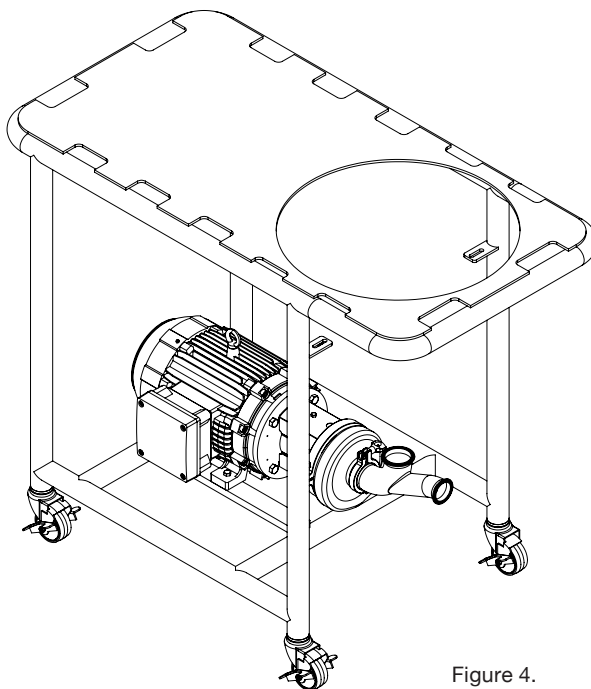

Figure 4.
6d. Install the Y-elbow (Y) in the suction of the QIM. Use the clamp gasket (G) and clamp assembly (C) to fix it. Keep the Y-elbow top suction horizontal aligned. Be sure the clamp gasket is placed correctly to avoid leaking. **Figure 4.**